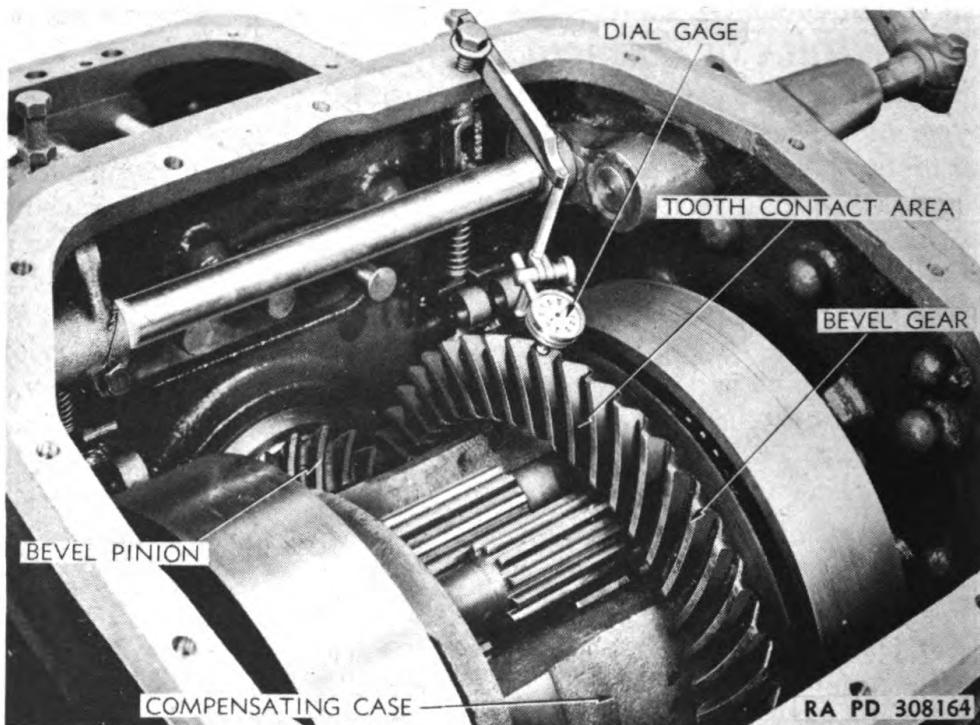

Figure 62 – Bevel Pinion and Gear Adjustment, Using Dial Indicator (41-I-100)
(1) **ADJUST FOR CORRECT TOOTH CONTACT OF PINION WITH GEAR.** Change shims behind differential carriers as explained in following step (2) to obtain 0.012- to 0.015-inch backlash between bevel pinion and gear. Coat several of the bevel pinion teeth with Prussian blue or similar material, engage the creeper pinion with creeper gear, and turn the transmission input shaft in a clockwise direction. Then observe the blue marks left on the bevel gear teeth by the pinion. The most desirable tooth contact area when tested in this manner is from the center of the tooth to the inner end as shown in figure 62. It will not always be possible to obtain this contact, however, the pinion may be moved in or out a maximum of 0.080 inch to obtain as nearly correct contact as possible by the removal or addition of shims behind snap ring on rear pinion shaft bearing as explained in paragraph 20 d (2). To move pinion and bearings back for removal of the snap ring, insert pry bar between the end of the pinion and one of the center sections of the differential compensating case. **CAUTION:** *Do not pry against the differential pinions.* Speedometer drive housing must be installed and cap screws tightened each time before checking above adjustment.
Mount a dial gage on differential case as shown in figure 62 to check backlash, then adjust gear to pinion by changing shims under differential bearing carriers from one side to the other until correct adjustment is obtained. If there is too much backlash, remove shims from left bearing carrier and add the same shims removed to those under right bearing carrier. If there is not enough backlash, shims must be removed from right bearing carrier and these same shims added to those under left bearing carrier. This procedure must be used so the adjustment of the differential bearings will not be changed. The cap screws in differential bearing carriers must be tightened firmly after shims are changed before backlash is checked. After correct adjustment of backlash is obtained thread lock wire through heads of differential bearing carrier cap screws.